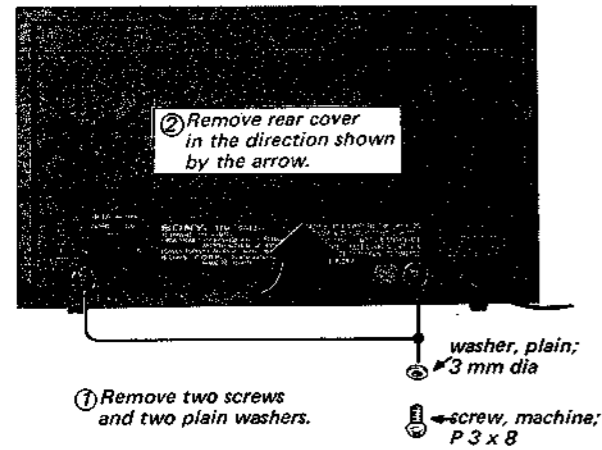

Fig. 2-1.
Remove rear cover in the numerical order shown in Fig. 2-1 below.
- ① Remove rear cover as shown in Fig. 2-1 above.